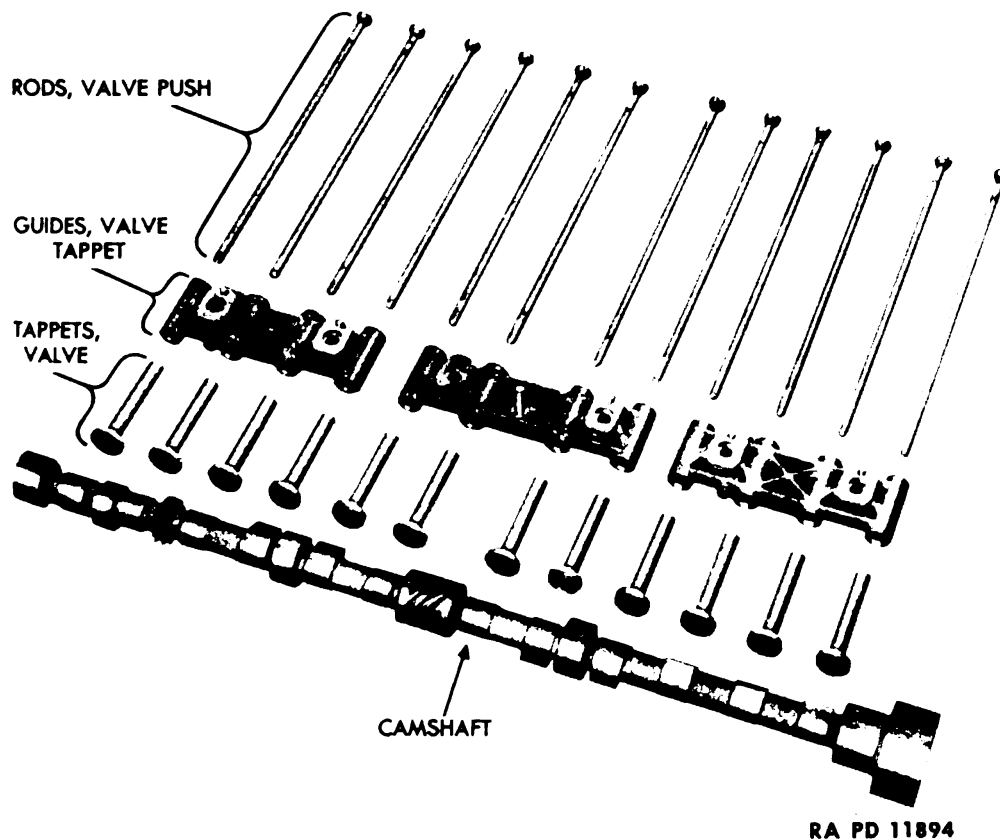

Figure 65—Relation of Camshaft to Valve Tappets, Guides and Valve Push Rods
h. **Valve Push Rods.** Valve push rods are hollow steel tubes. Welded to one end of push rod is a valve push rod ball. Welded to opposite end is a valve push rod socket. Push rods extend down through cylinder head and rest in valve tappets (fig. 65). When cam on camshaft actuates valve tappet, push rod carries thrust upward, and lifts one end of valve rocker arm, thus depressing and opening valve.
i. **Valve Tappets.** Valve tappets are steel, and are of the familiar mushroom type. Tappets ride in valve tappet guides attached to outer side of cylinder walls (fig. 65). Large mushroom head of tappet rests against cam on camshaft (fig. 65). Inserted in opposite end is valve push rod. When valve tappet is actuated by cam on camshaft against which it rests, tappet transmits thrust to valve push rod.